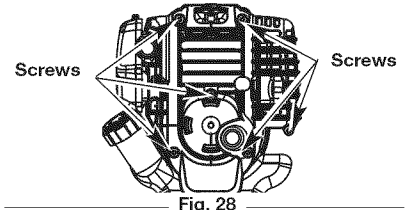

Fig. 28
1. Remove the six (6) screws on the back of the engine cover with a Flat-head or T-25 Torx screwdriver (Fig. 28).
4. Remove the engine cover (Fig. 28).
- Stop the engine and allow it to cool. Remove the six (6) screws on the back of the engine cover with a Flat-head or T-25 Torx screwdriver (Fig. 28).